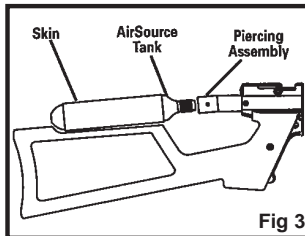

Fig 3
- Screw the AirSource cylinder in to the piercing assembly until hand tight. (Fig. 3)